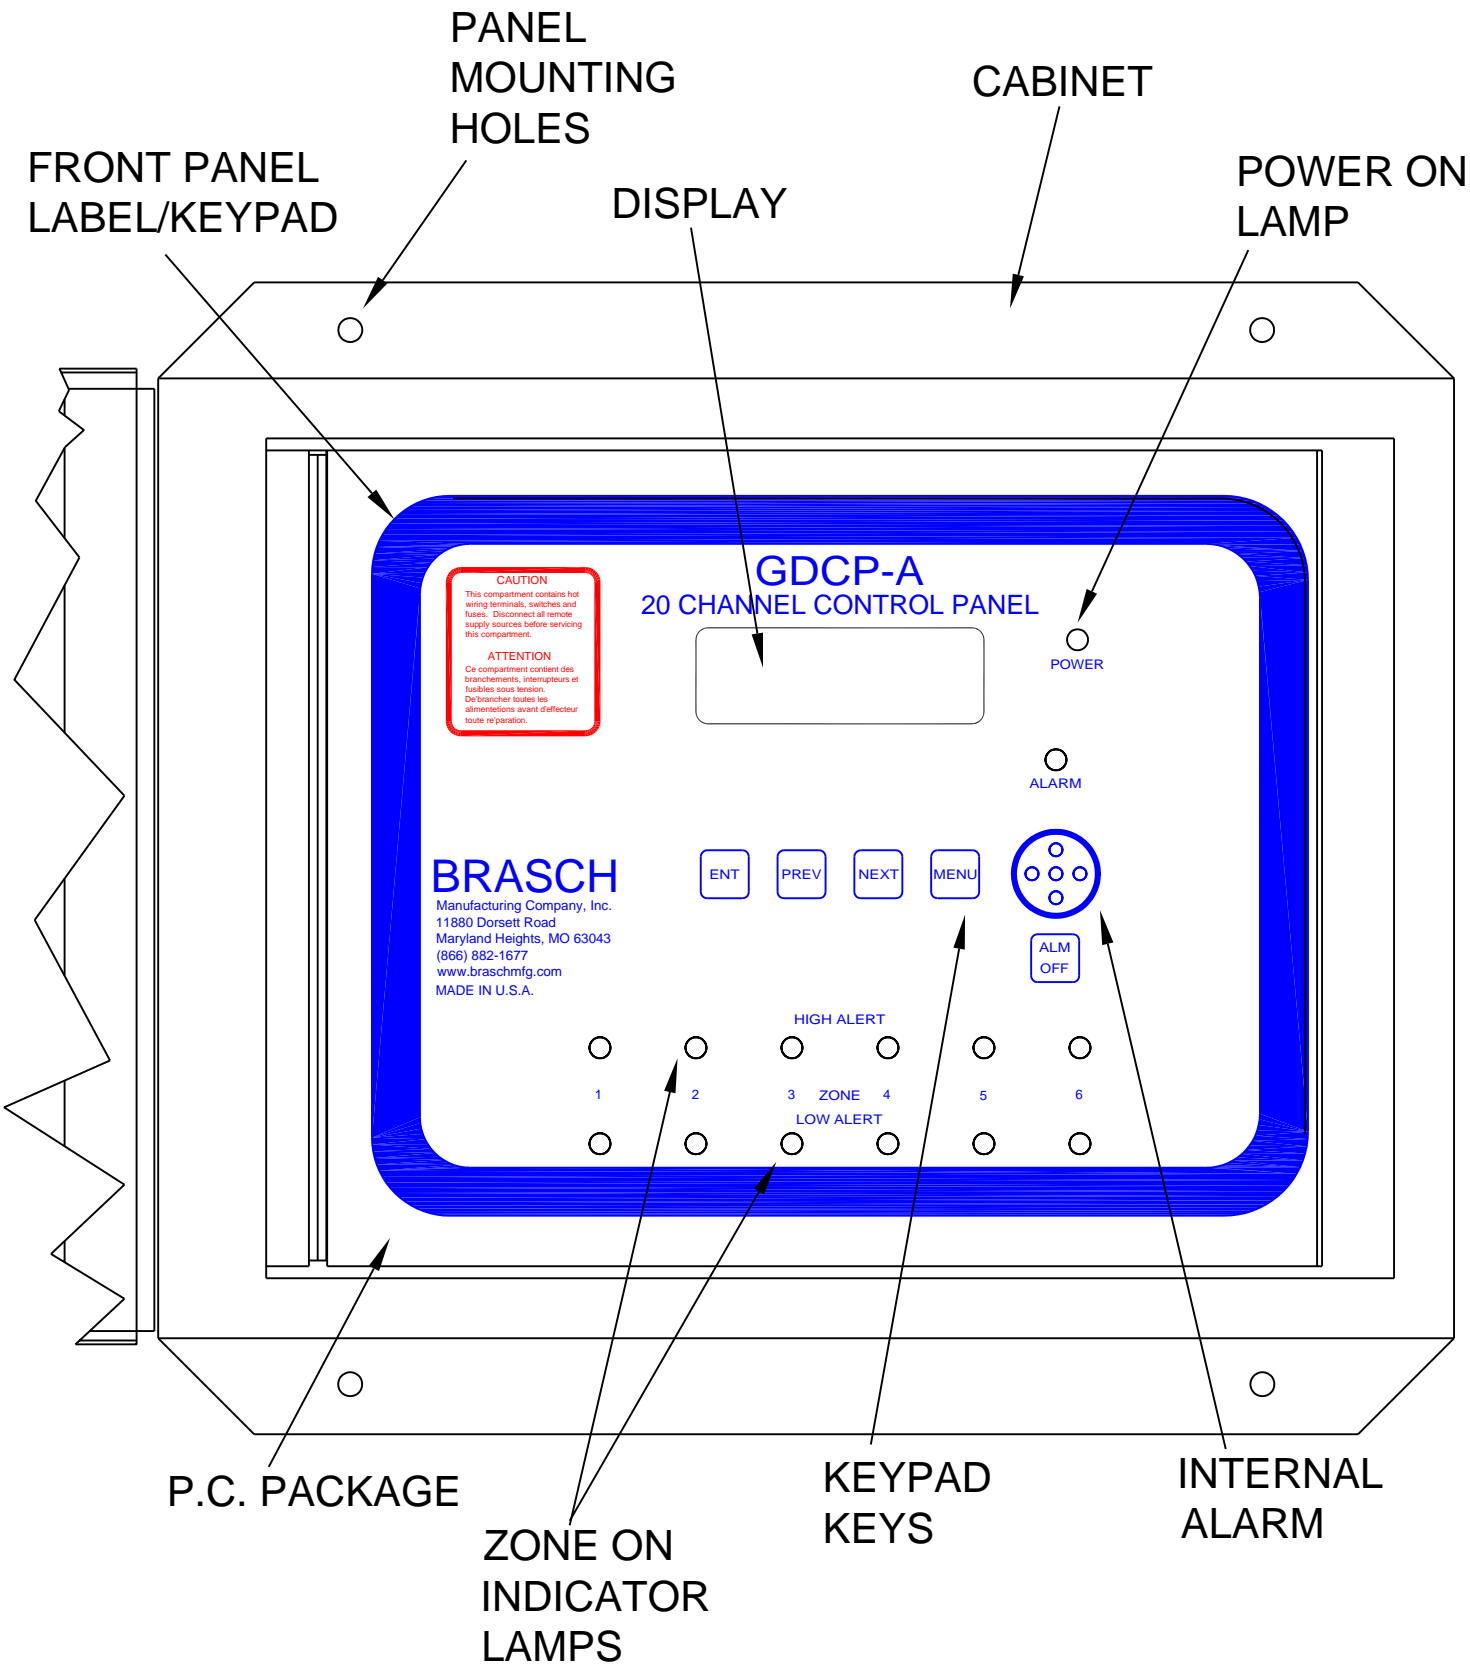

FIG 7: GDCP-A front, internal view of front panel layout.
- 3-5.1** The GDCP-A Control Panel uses a four key keypad and a liquid crystal display to enter or change the programming for the various functions. **Please see Fig. 7, page 21, for the location of the various front panel features.** The routine involves displaying a programming choice on the LCD and waiting for the operator to respond by pressing one of the four keys. Depending upon the key pressed, a parameter is entered into the program, or the next programming choice is presented on the LCD.